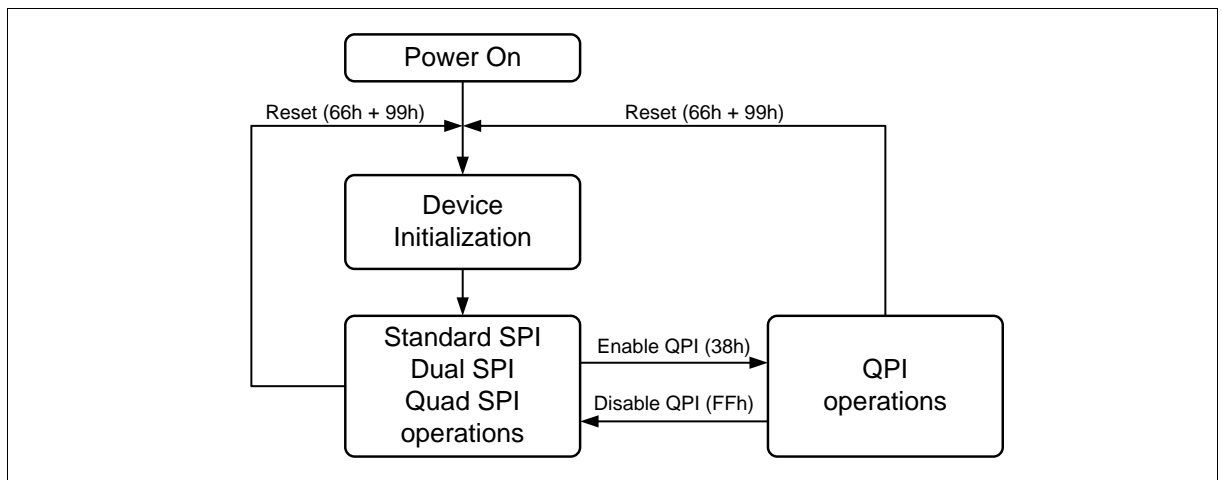

Figure 2 FM25F005A Serial Flash Memory Operation Diagram
The FM25F005A supports Quad Peripheral Interface (QPI) operations only when the device is switched from Standard/Dual/Quad SPI mode to QPI mode using the “Enable QPI (38h)” instruction. The typical SPI protocol requires that the byte-long instruction code being shifted into the device only via DI pin in eight serial clocks. The QPI mode utilizes all four DQ pins to input the instruction code, thus only two serial clocks are required. This can significantly reduce the SPI instruction overhead and improve system performance in an XIP environment. Standard/Dual/Quad SPI mode and QPI mode are exclusive. Only one mode can be active at any given time. “Enable QPI (38h)” and “Disable QPI (FFh)” instructions are used to switch between these two modes. Upon power-up or after a software reset using “Reset (99h)” instruction, the default state of the device is Standard/Dual/Quad SPI mode. To enable QPI mode, the non-volatile Quad Enable bit (QE) in Status Register-2 is required to be set. When using QPI instructions, the DI and DO pins become bidirectional DQ₀ and DQ₁, and the WP# and HOLD# pins become DQ₂ and DQ₃ respectively. See Figure 2 for the device operation modes.